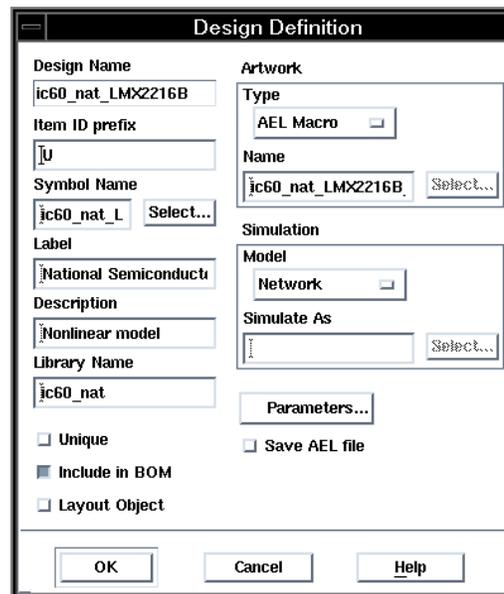

Figure 11. Design Definition
8. Choose **Design Definition...** from **File** to obtain the dialog box shown in Figure 11.